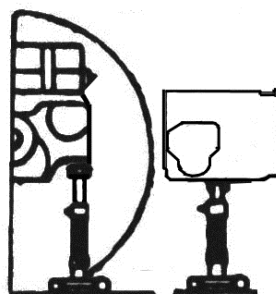

Figure 4.6
e) bring under rear axle body (RA) screwed support P 7010-00 (or identical to it) (Figure 4.6) until it fully touches the RA body;
f) bring under gear box (GB) body screwed support P 7010-00 (or identical to it) (Figure 4.6) until it fully touches GB body;